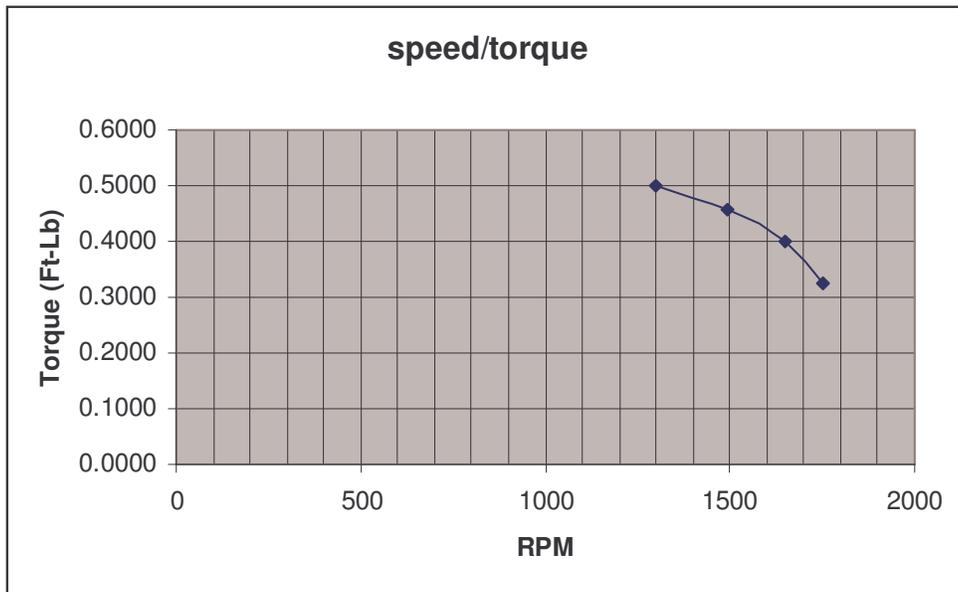

Figure 2, Sample of one possible Performance Curve
(5) Plot performance curves example shown in Fig. 2 using a spreadsheet program like EXCEL